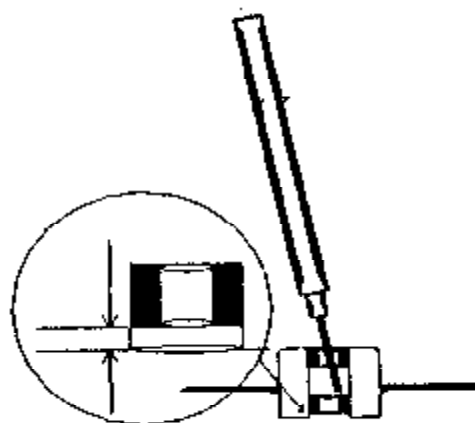

FIG 2
- 4 Note depth of old bearing (Fig 2).
- 5 Two bearing motor: slide D+D tool through lower bearing hold on angle, tap around edge lightly until bearing is removed (Fig 2).